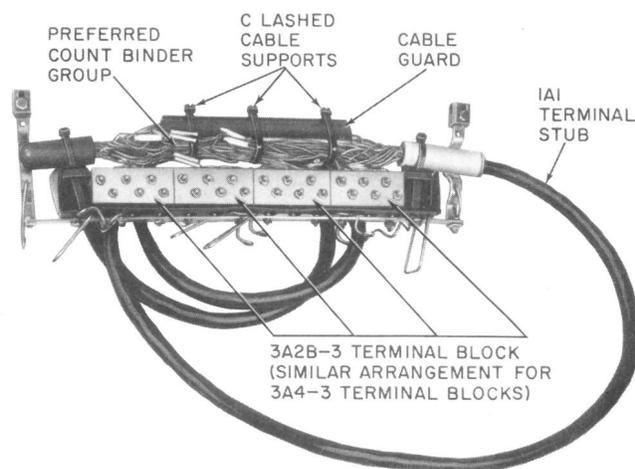

Fig. 13—Completed Splice—Fixed Count (49C2 Cable Terminal with 3A2B-3 Terminal Blocks)
(7) For **preferred count** version place cable guard leaving preferred count binder group and terminal block conductors exposed (Fig. 13).